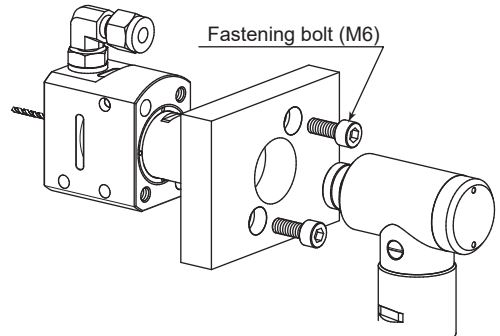

Fig. 24
- (1) Insert the spindle body housing (diameter  $\phi 26$  mm) section into the fixed base of the machine tool.
- (2) Secure the spindle through the mounting holes (2 locations) using the fastening bolts (M6). (Fig. 24)